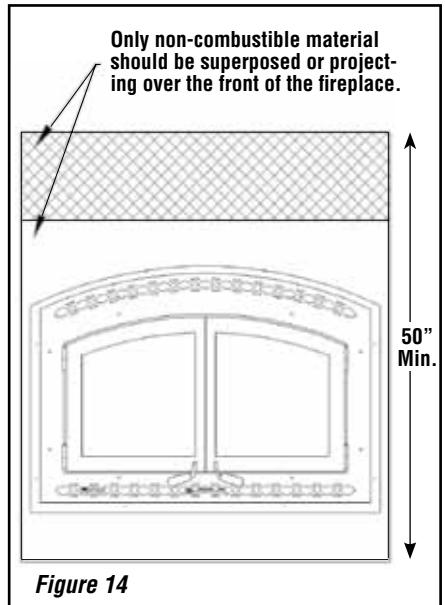

Figure 14
1. Combustible material must be installed flush with the fireplace. It may not project in front of and on the fireplace (i.e. the steel facade of the fireplace) (Figure 14).